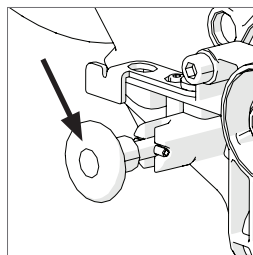

Fig. 21
- Turn the Latching Pin $\frac{1}{4}$ of a turn and allow the Pin to settle in the unlocked position within the 'boss'. **(Fig. 21)**